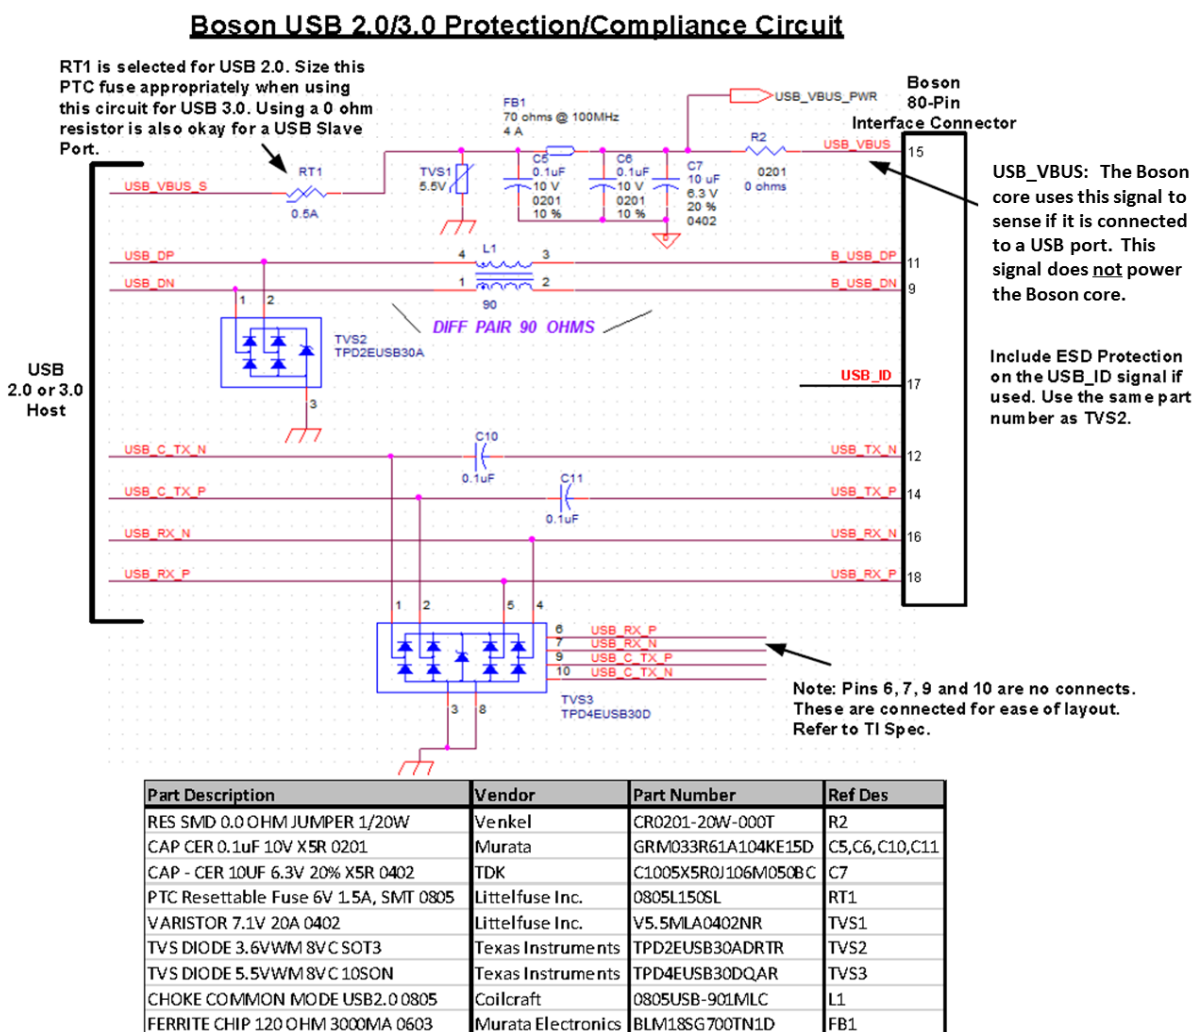

Figure 6: Recommended USB protection circuitry, to be implemented on interfacing electronics
- FLIR highly recommends implementing the protection circuit for the USB channel shown in Figure 6 on interfacing electronics if the USB channel is utilized.